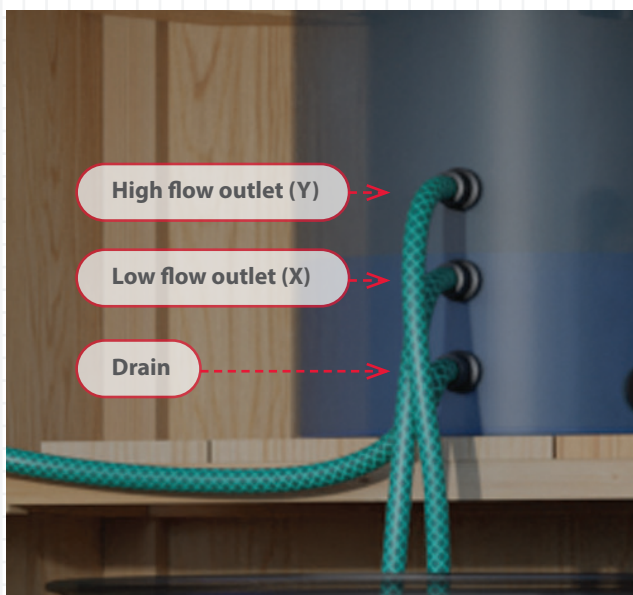

Fig. 1.8
- i. Drill 25mm hole at the height specified by the floc plan (this is typically referred to as 'X' or 'Low flow' outlet). Refer to Fig. 1.8 for details and connect the connection and hose supplied
- i. Drill another 25mm hole at the height specified by the floc plan (this is typically referred to as 'Y' or 'high flow' outlet). Refer to Fig 1.8 for details.